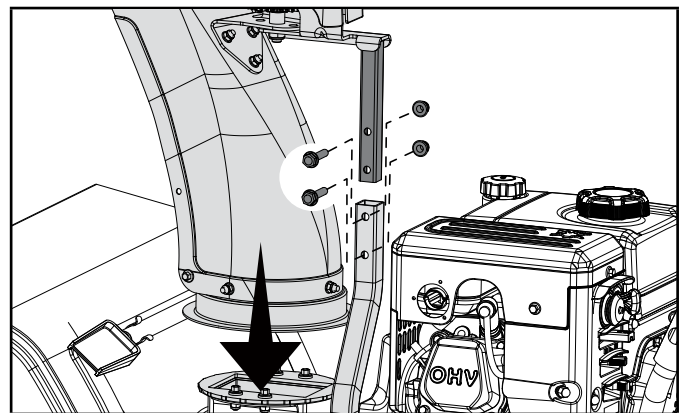

Figure 10
1. Put the snow discharge chute on the snow discharge support. Attach the snow discharge support using bolts (9-1) and nuts (9-2) removed in the prior step (Fig. 10). Fully hand tighten.